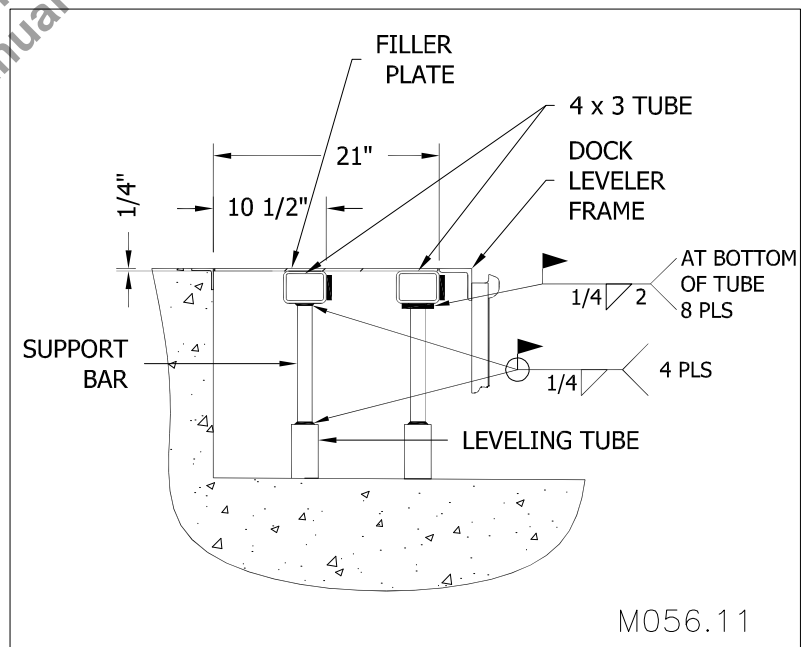

Figure 24: Welding the 4 X 3 Rectangular Tubing to the Curb Angles
4. ___ Slip the levelling tubes over the support bars and lightly tack in place so that it does not fall off while inverting the rectangular tube as indicated in "Figure 24: Welding the 4 X 3 Rectangular Tubing to the Curb Angles" on page 18.
5. ___ Position the 4 X 3 inch rectangular tubes as indicated in "Figure 24: Welding the 4 X 3 Rectangular Tubing to the Curb Angles" on page 18. Make sure the top surface of the rectangular tube is 1/4" below the top surface of the curb angle. This will allow the filler plate to be welded flush to the top surface of the curb angle.
6. ___ Weld the ends of the rectangular tubing to the side curb angle as indicated in "Figure 24: Welding the 4 X 3 Rectangular Tubing to the Curb Angles" on page 18. Add vertical welds at the ends of the tube between tube surface and side curb angle surface.
8. Weld the levelling tubes to the support bars using full fillet welds as indicated in "Figure 24: Welding the 4 X 3 Rectangular Tubing to the Curb Angles" on page 18.